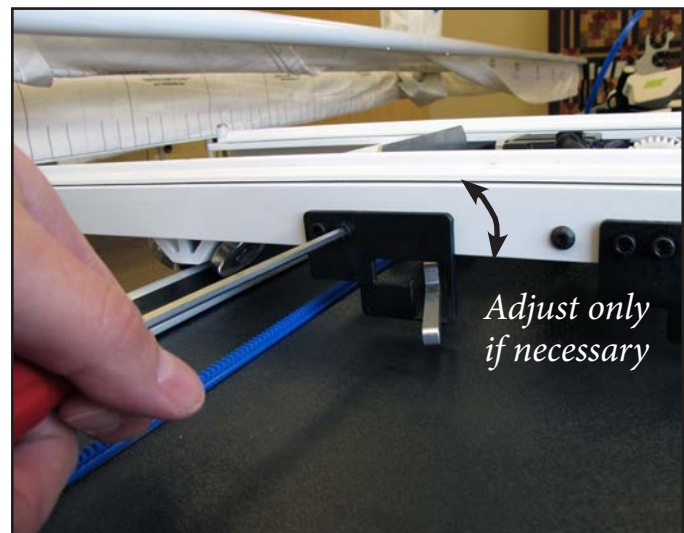

Figure 3.15
- a. If the white gear fails to lower enough with the front disengagement lever in its lowest position, you will need to adjust the black X-axis lever bracket to allow the X-axis engagement lever to drop a little lower. To do this, loosen the two 4mm Allen bolts and pivot the bracket downward until the white gear is pressing firmly on the blue flexirack, then re-tighten the two bolts (**Figure 3.15**).